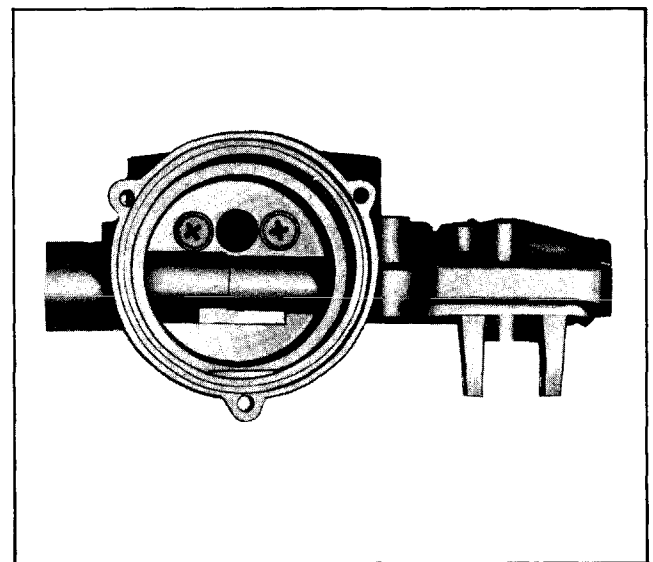

Fig. 6B-93 Location of Choke Housing Attaching Screws
12. Place upended cover on flat surface. Remove float hinge pin and lift float assembly from cover (Fig. 6B-94). Float needle may now be removed from float.